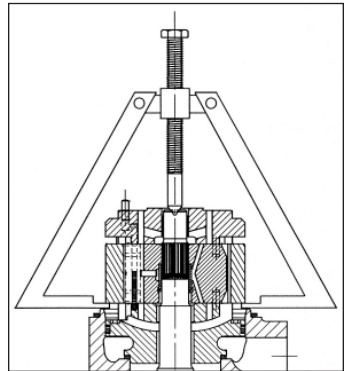

Fig. 32
4. Disassemble the cartridge / front cap with an extractor (Fig. 32).